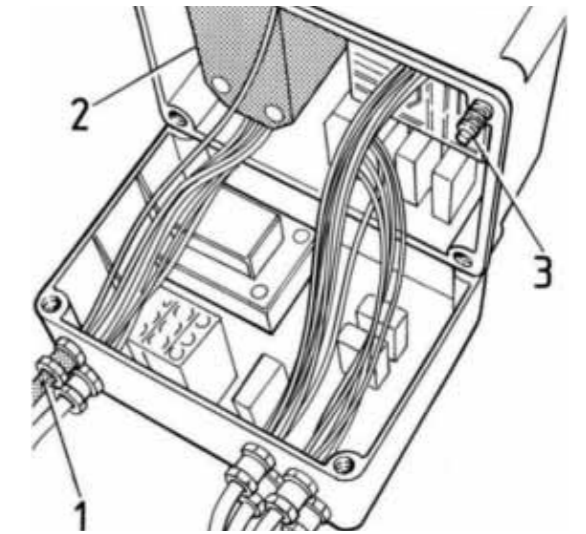

Figure 6
- The power cable must be connected to the lift distribution board, passing it through the hole provided (1) until it reaches the terminal block marked with the power supply voltage (2 - fig. 6). The three phase wires must be fixed to the respective terminals marked by the symbols L1, L2 and L3. The earth wire must be connected to the yellow-green earth terminal.
- Complete the connection of the control unit to the distribution board and close the cover by means of the screws (3 - fig. 6).